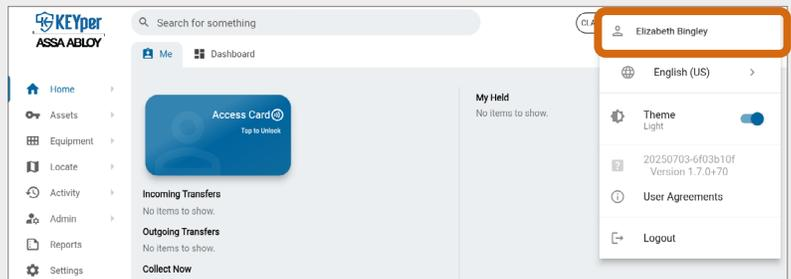

Fig. 129 – Select your name from the Profile menu
2. Select **Profile** , then select your name, as shown in Fig. 129.